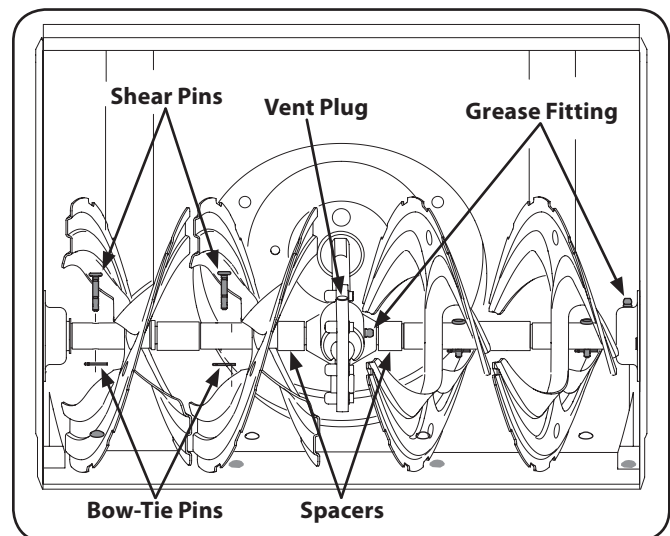

Figure 6-2
Grease fittings can also be found at each end of the auger shaft. Lubricate with a grease gun once a season. See Figure 6-2.
The auger gear case is equipped with a grease fitting. Lubricate with grease once a season (order part number 737-0168). See Figure 6-2.
NOTE: To relieve pressure, remove the vent plug before lubricating the gear case. See Figure 6-2. Failure to do so could result in damage to the gear case seals.
2. Replace the pins if needed. Two replacement shear pins and cotter pins have been provided with the snow thrower. Spray an oil lubricant into shaft before inserting new pins and securing with new cotter pins. See Figure 6-2.